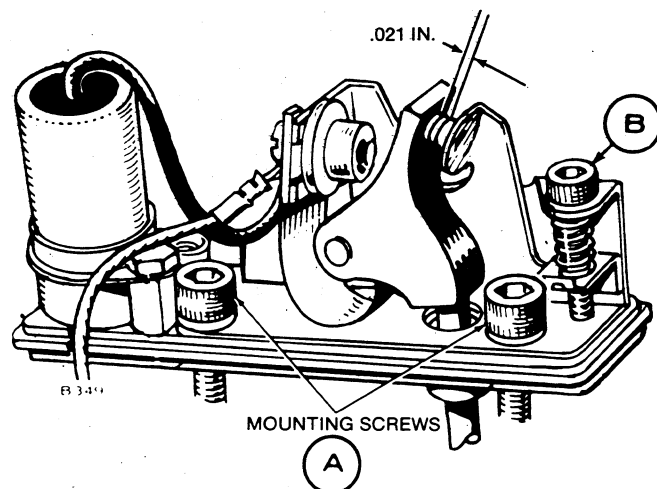

FIGURE 17. TIMING AND BREAKER POINTS ADJUSTMENT
3. Using an allen head wrench, adjust set screw (B) for .021 in. (.53 mm). Measure point gap with a flat thickness gauge. See Figure 17.